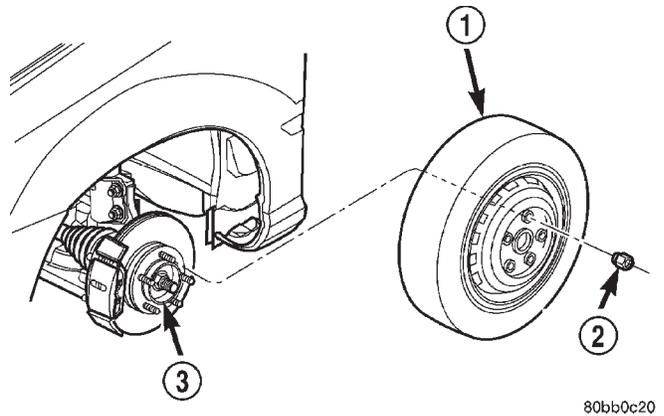

Fig. 3 Wheel and Tire Removal
- (1) Disconnect battery negative cable.
- (2) Place transaxle in gated park.
- (3) Raise vehicle on hoist.
- (4) Remove wheel and tire assembly (Fig. 3).